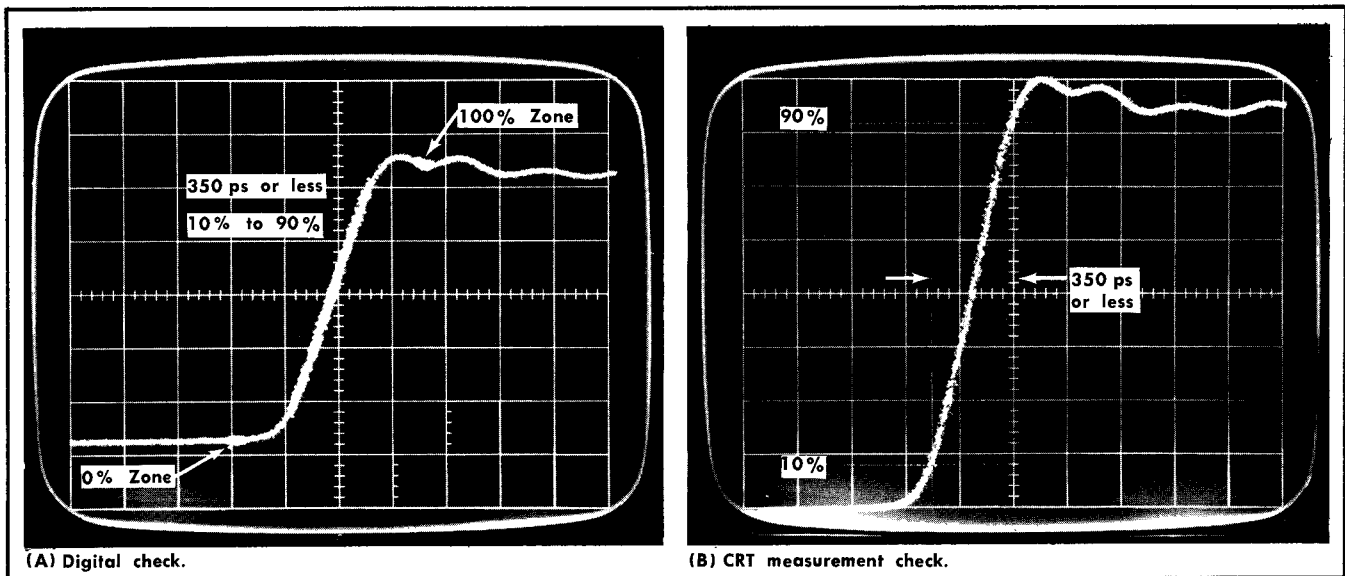

Fig. 5-7. Risetime measurement displays.
c. Once a pulse display is obtained, position it and the digital unit 0% and 100% zones as shown in Fig. 5-7. Read the risetime from the digital unit. With the Type 3T2 Time Magnifier at $\times 50$ for 200 ps sweep rate, 350 ps will be read as $+0.350\ \text{NS}$.